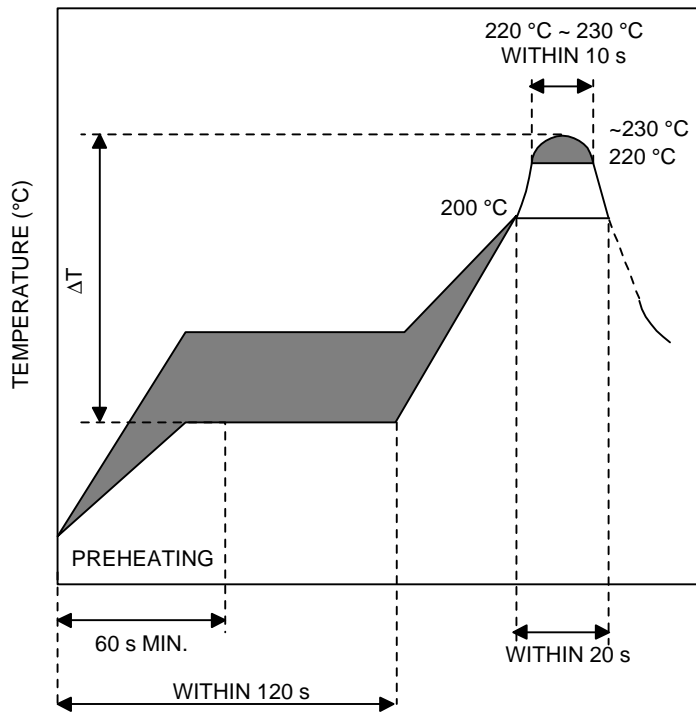

Figure 18. Solder Timing Diagram
1. Carefully perform preheating so that the temperature difference ΔT between the solder and the component surface is in the range shown in Figure 18.